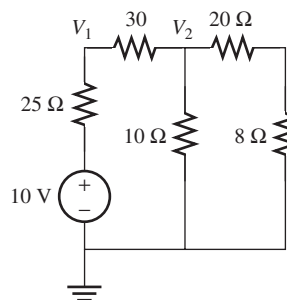

FIGURE P3.34 Circuit for Problem 3.34.
- 3.34** (B) Find V_1 and V_2 in Figure P3.34.
3.45 (A) Use mesh analysis to find the current through the $8\text{-}\Omega$ resistor in Figure P3.34.